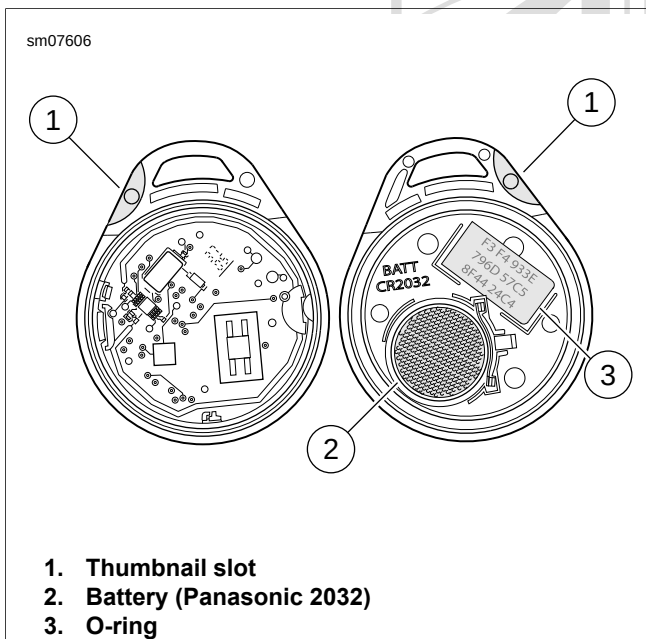

Figure 7-68. Open Fob: HFSM
- a. See Figure 7-68. Place a thin blade in the thumbnail slot (1) between the two halves of the case.
- a. See Figure 7-68. With O-ring (3) in place, align case halves.